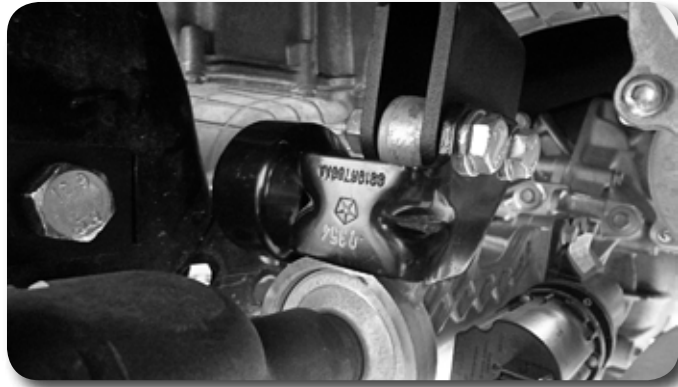

Figure 14B
37. Attach the differential to the driver's side front bracket and Passenger's side bracket with 12mm x 55mm bolts, nuts and washers, the drivers side brackets shown in figure 13 will require 1/4" spacers. Attach the drivers side rear bracket to the differential with 12mm x 30mm bolts and washers. Leave all differential hardware loose. DIESEL MODELS: When attaching the differential to the passenger's side drop bracket, reinstall the harmonic dampener and use the (2) 12mm x 60mm bolts provided in place of the 12mm x 55mm bolts **Figure 14B**.